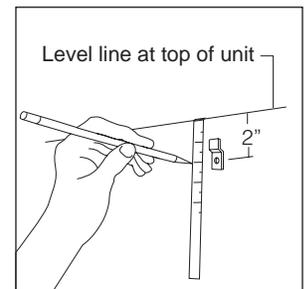

Fig. 2
2. Measure 2" down from the top of the MarkerBoard frame and mark with pencil or masking tape (Fig. 2). Use a level and mark a horizontal line no longer than the width of the frame.